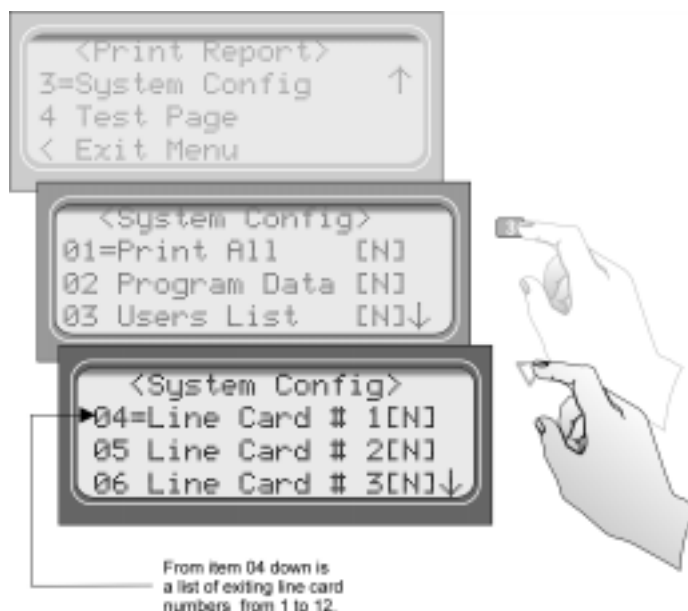

Figure 4-15 System Configuration Print Items
5. Press  to view system configuration options. See Figure 4-15.